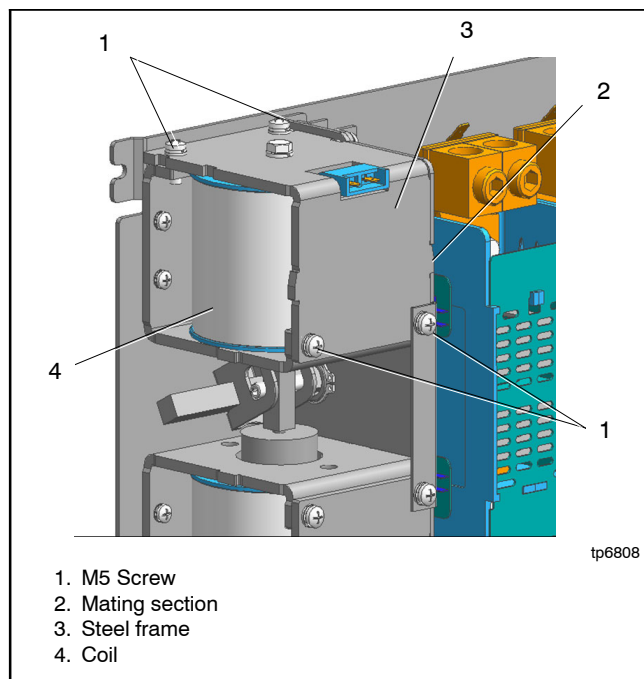

Figure 7-34 Coil and Frame
1. Remove four M5 screws. See Figure 7-34.
2. Remove the steel frame by sliding toward the left. The frame is fit to the body at the mating section. See Figure 7-34.